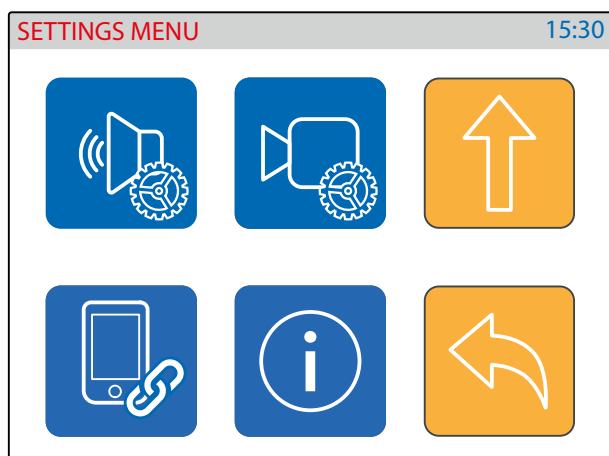

Fig. 6 Settings menu 2/2
4. Before installation of the module support frame, hook the modules **(G)** to the support frame **(H)** as shown in **Fig. 5** then, as shown in **Fig. 6**, fit the two anti-tampering locks **(W)** for each module (do the same for the second module support frame);
- Tap on the speech adjustment icon (Fig. 6 on page 16).
- Tap on the video adjustment icon (Fig. 6 on page 16)
- Tap on the binding code icon (Fig. 6 on page 16).